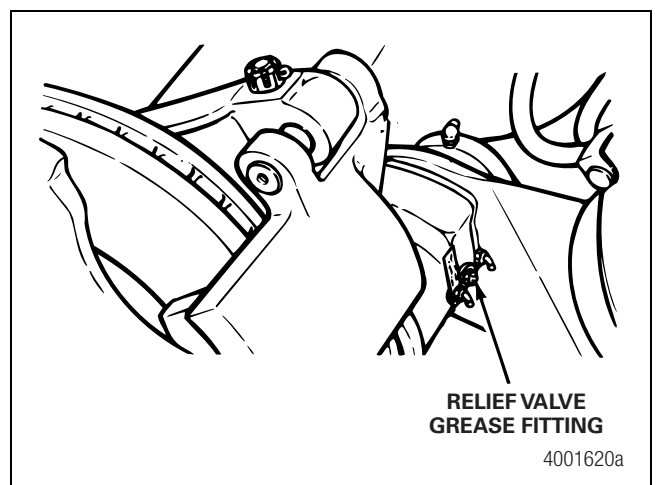

Figure 10.1
7. Remove the pressure relief fitting from the caliper. Figure 10.1.